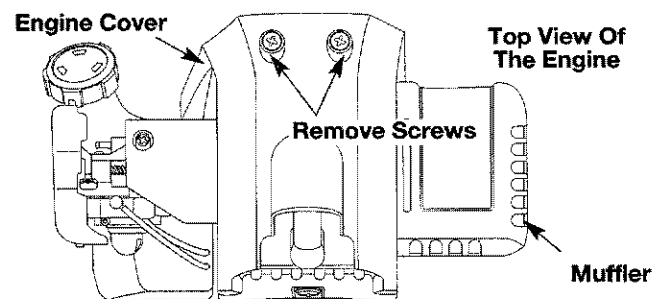

Fig. 52
2. Remove the two (2) screws on top of the engine cover with a flathead or T-20 Torx screwdriver (Fig. 52).